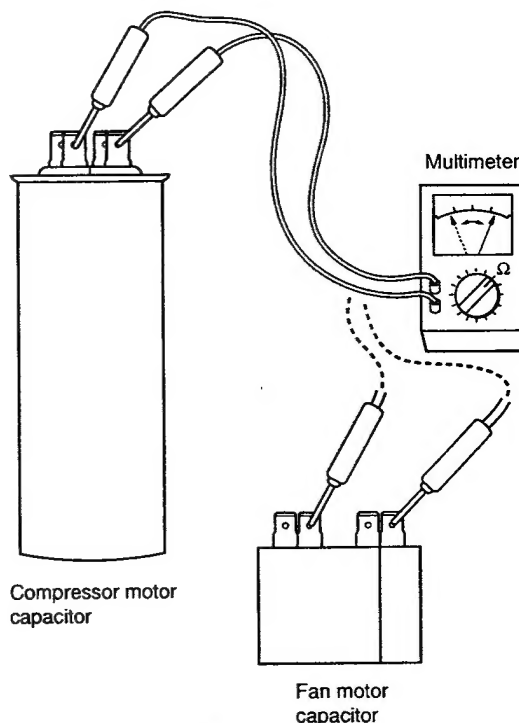

Fig. 11
- Refer to "1-3-(B) Other component specifications".
- ③ **Indoor fan motor (FMI) Indoor unit** *Measure the coil resistance.
- Refer to "1-2-(A) Major component specifications".
- ④ **Outdoor fan motor (FMO) Outdoor unit** *Measure the coil resistance.
- Measure the resistance in the same manner as explained above ③.
- Refer to "1-2-(B) Major component specifications".
- ⑤ **Motor capacitor Both in indoor and outdoor unit**
- Remove the lead wires from the capacitor terminals, and then place a probe on the capacitor terminals as shown in Fig. 11. Observe the deflection of the pointer, setting the resistance measuring range of the multimeter to the maximum value.